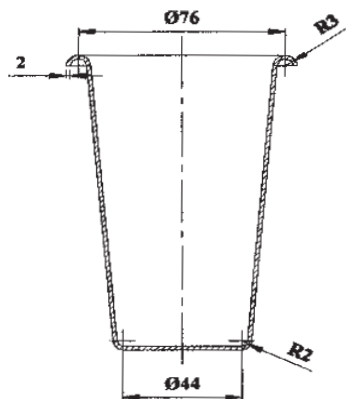

Fig. 6: Plastic Glass (sectional view)
- Q11)** Design single impression injection mold for the plastic glass shown in figure 6.